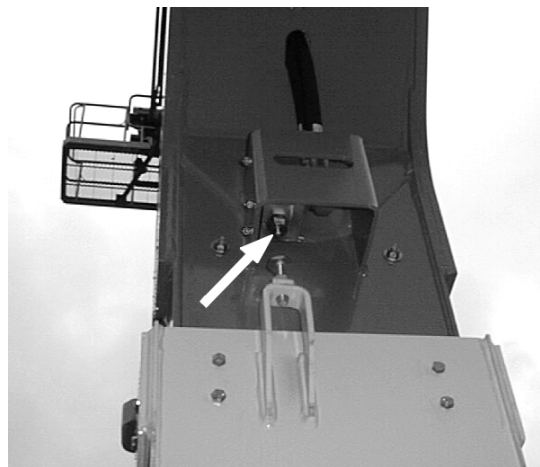

Figure 2-8. Tower Boom Horizontal Limit Switch
- d. Raise the tower base boom to full height. Extend the tower fly boom a few feet. Check that the plunger on the tower boom horizontal limit switch at the end of the tower base boom section is fully extended. The plunger is shown fully extended in Figure 2-8.